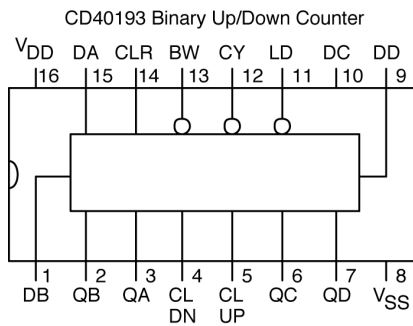

Figure C-9. CD40193 binary up/down counter IC diagram
The CD40193 binary up/down counter, shown in Figure C-9, contains one 4-bit binary counter that can count up, count down, be preloaded with a count, or be reset. This counter can easily be cascaded with additional CD40193s by connecting the Carry (CY) and Borrow (BW) outputs to the next CD40193's Count Up and Count Down inputs, respectively. The counter counts up or down depending on which clock input is used, while the other one is held at a high logic level. If the Count Up input (CL UP) sees a positive-going clock edge while the Count Down input (CL DN) is held high, the counter will count up. If the Count Down input (CL DN) sees a positive-going clock edge while the Count Up input (CL UP) is held high, the counter will count down. In order to *jam* a count into the counter and make it count up or down from there, you present the 4-bit count to the counter's four data lines (DA thru DD) and then bring the Load input (LD) momentarily low. The Clear input (CLR) forces the counter's outputs (QA thru QD) to 0 when brought to a logical one.